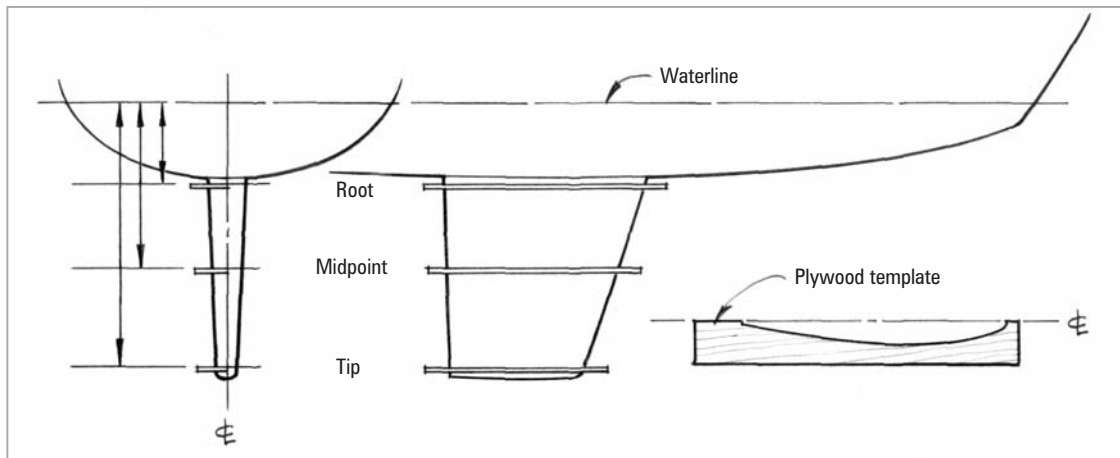

Figure 13 Obtain the profiles for three locations on the keel: the root (top of the keel near the hull attachment point), the midpoint and the tip of the keel.
1. Transfer the full size profiles to $\frac{1}{2}$ " A/C-grade plywood (Figure 13). Cut out the three templates with a band saw or saber saw and sand the edges of the foil shape carefully to eliminate any bumps or unfairness. Mark the keel's centerline on each end of the template. Seal the profile edge of the templates with a coat of epoxy and sand them smooth after the epoxy cures.